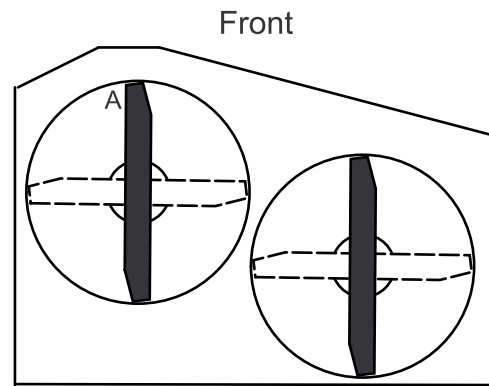

Figure 61
4. Measure at **A** and from level surface to the cutting edge of the blade tips (Figure 61).